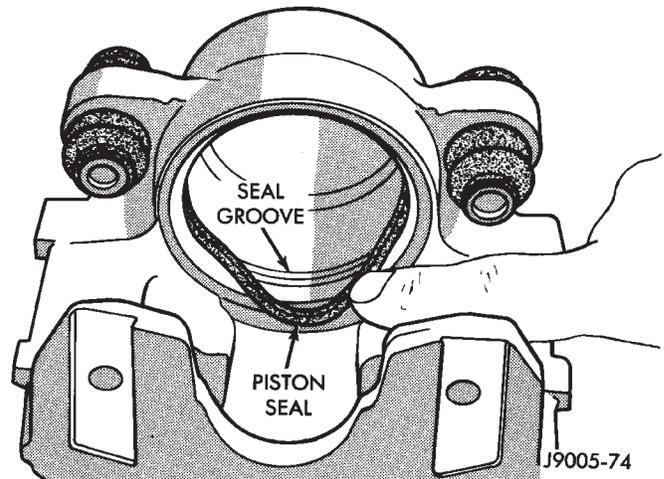

Fig. 71 Piston Seal Installation
(4) Install new piston seal into seal groove with finger (Fig. 71).